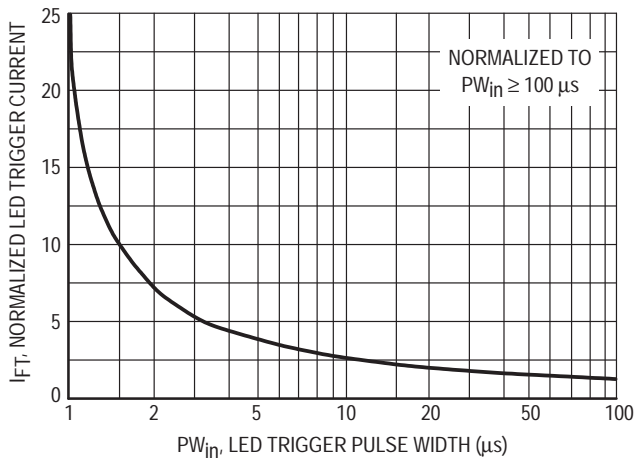

Figure 10. LED Current Required to Trigger versus LED Pulse Width
For resistive loads the triac drivers may be controlled by short pulse into the input LED. This input pulse must be synchronized with the AC line voltage zero-crossing points. LED trigger pulse currents shorter than 100 μs must have an increased amplitude as shown on Figure 10. This graph shows the dependency of the trigger current I_{FT} versus the pulse width t(PW). I_{FT} in the graph, I_{FT} versus (PW), is normalized in respect to the minimum specified I_{FT} for static condition, which is specified in the device characteristic. The normalized I_{FT} has to be multiplied with the device's guaranteed static trigger current.